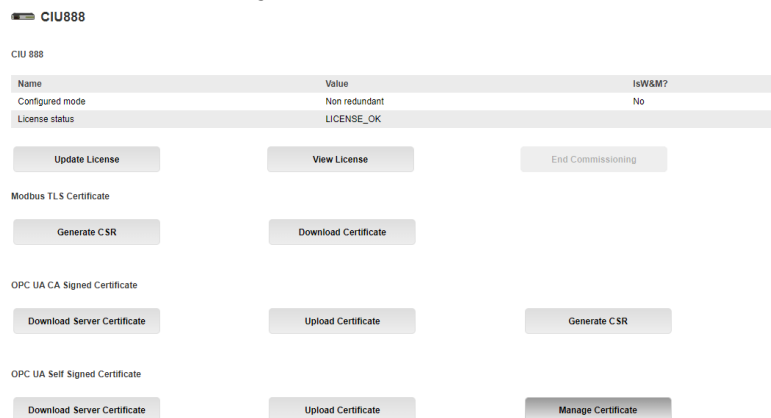

FIGURE 4-11
a) Login to the CIU 888 Web portal and navigate to the **CONFIGURE** tab.(see FIGURE 4-11)